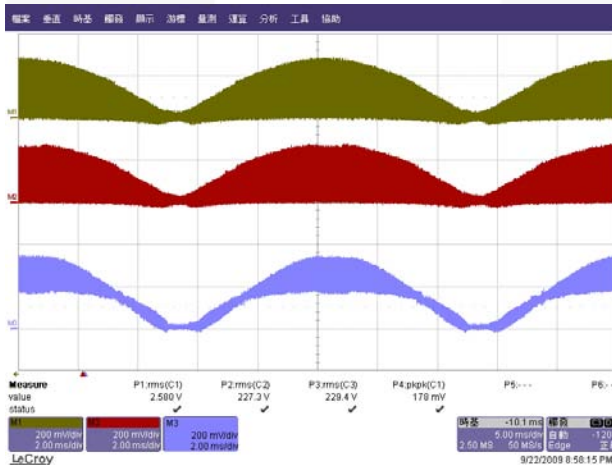
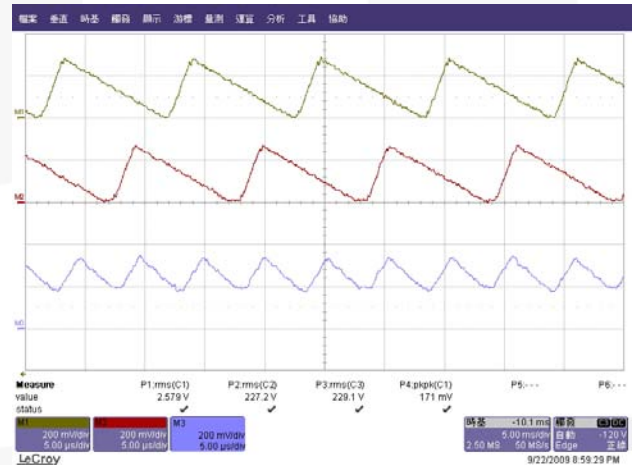

Figure 13. $230V_{AC}$ / 50Hz Full Load
Figure 14. $230V_{AC}$ / 50Hz Full Load
- Figure 13 and Figure 14 show the two inductor currents and the sum of two inductor currents at $230V_{AC}$ line voltage and full-load conditions. The sum of the inductor currents has relatively small ripple due to the ripple cancellation of interleaving operation.